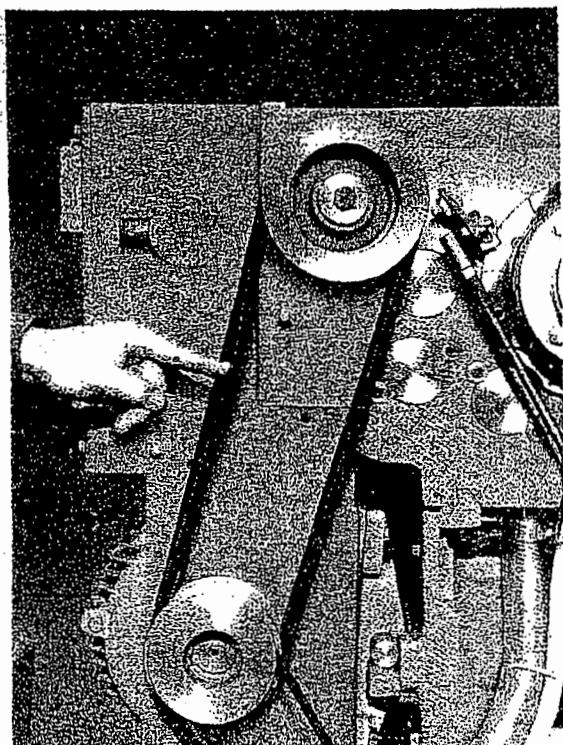

Fig. 1
Drive Belts (Fig. 1 and 2)
Access to the Drive Belts is gained by removal of the moulded End Guard, when Vee Belt tension may be assessed by applying finger pressure to each Belt in turn at a point midway between the two Pulleys (Fig. 1). For correct tension a deflection of about 10mm should be possible in each Belt.
NOTE: Spacers (402.152) on the main spindle should allow for 1mm movement of armature at initial setting (Fig. 1).
- (5) Switch off mains supply at the isolator interlock part, retighten the potentiometer lock nut, close electrical cabinet, release end guard interlock switch and refit moulded end guard.
- (6) Check for correct operation.
(II) TO SET 'AUTOGAP' ASSEMBLY (Fig. 1)